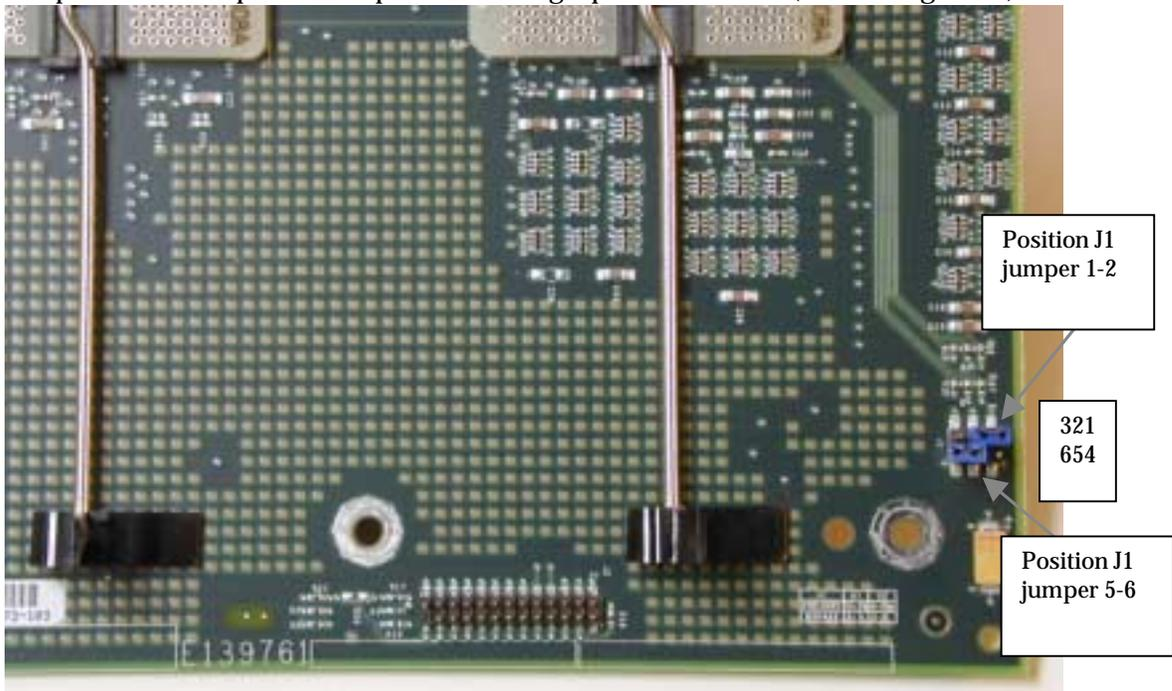

Figure 20 Processor board jumper settings
11. Check the jumper setting at position J1 for the proper setting. A jumper should be in position on pins 1-2 and in position on pins 5-6 for single processor mode. (Refer to Figure 20).